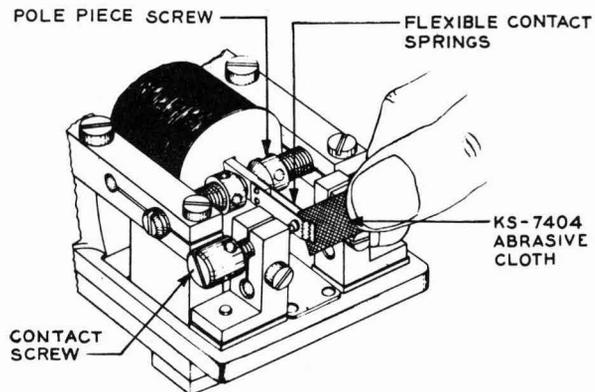

Fig. 49 – Method of Cleaning Tips of Flexible Contact Springs on 209-type Relays
7.07 Tips of Flexible Contact Springs on 209-, 215-, 228-, and 255-type Relays: When necessary to clean the surfaces of the flexible contact springs which bear against each other, proceed as follows. Cut off a piece of KS-7404 abrasive cloth approximately 2 inches long. Back off the contact screws two or more full turns. To clean standard armatures (Fig. 18), fold the cloth crosswise with the abrasive outward and insert the corner of the folded end in the opening between the contact spring. Draw the cloth forward, at the same time exerting a downward pressure so that the cloth passes between the front ends of the contact springs as shown in Fig. 49. Move the cloth backward and forward taking three or four strokes and then remove the cloth. Use a new piece of cloth for each operation. To clean armatures of the duckbill type (Fig. 19), use a single thickness of cloth in the same manner as described above except that the operation is performed twice, once with the abrasive surface of the cloth to the right and once with it to the left.